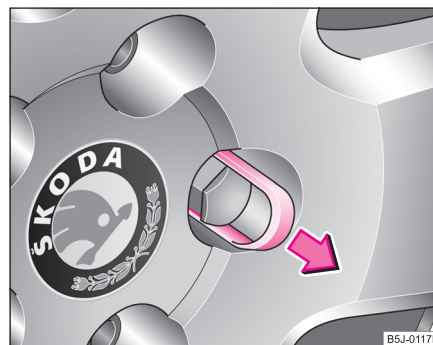

Fig. 158 Changing a wheel: Pull off cap from the wheel bolt
- Pull the cap off with the **plastic clip** ⇒ fig. 158.